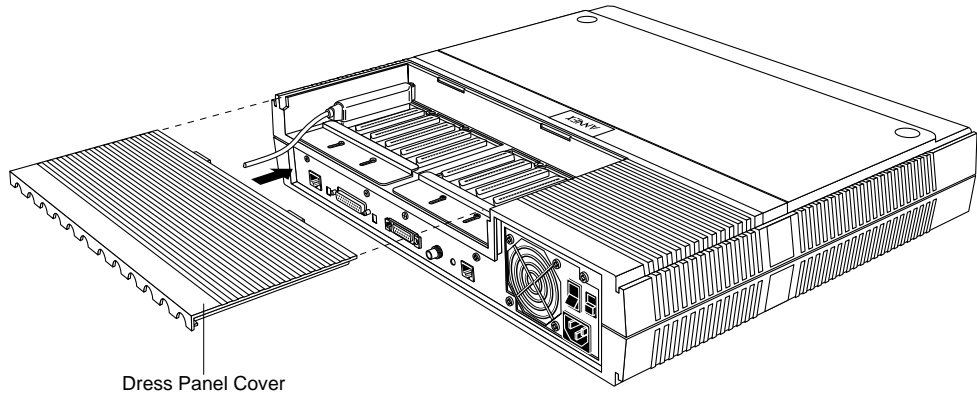

Figure 2-12. Securing the Dress Panel Cover
- 7 Slide the dress panel cover back to its original position by sliding it toward the front of the Remote Annex 4000 (see Figure 2-12).